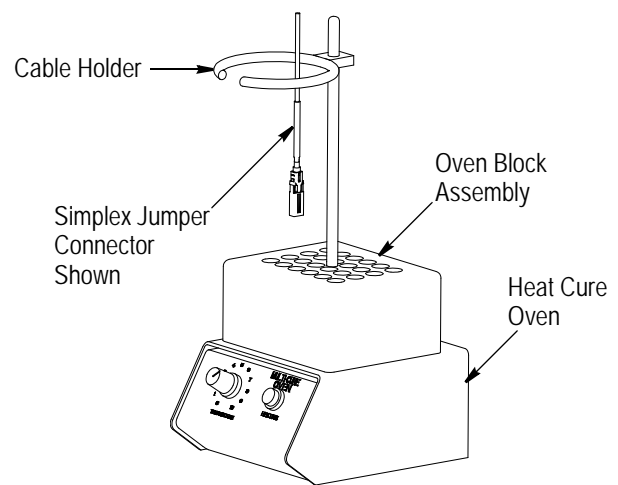

Figure 11
1. Insert the connector subassembly (with attached fiber protector) into the cure oven as shown in Figure 11. Heat cure the epoxy at 115 to 120°C [239 to 257°F] for a minimum of 15 minutes. For jumper connectors, this operation will shrink the crimp eyelet of the crimp eyelet/heat shrink tube assembly.